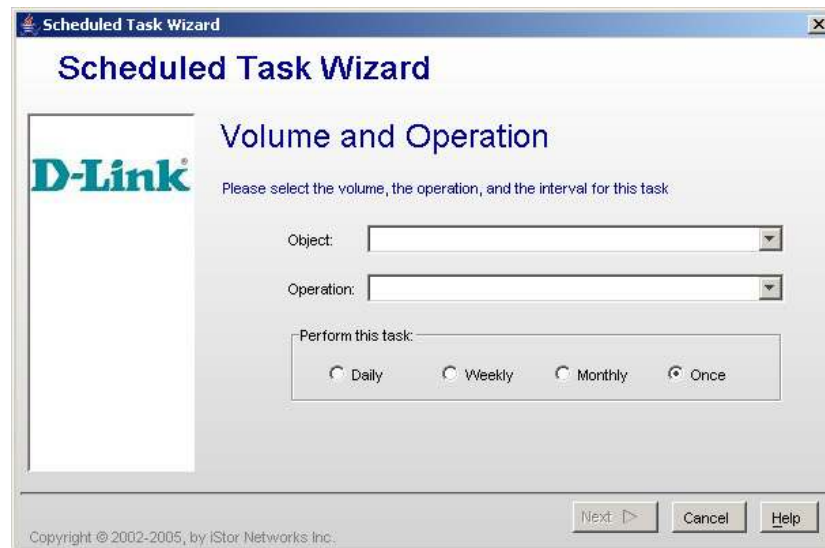

Figure 5-42 Scheduled Task Wizard – Volume and Operation
1. On the **View** menu, click **Create Task**. The Scheduled Task Wizard launches and the Volume and Operation screen appears (see Figure 5-42).